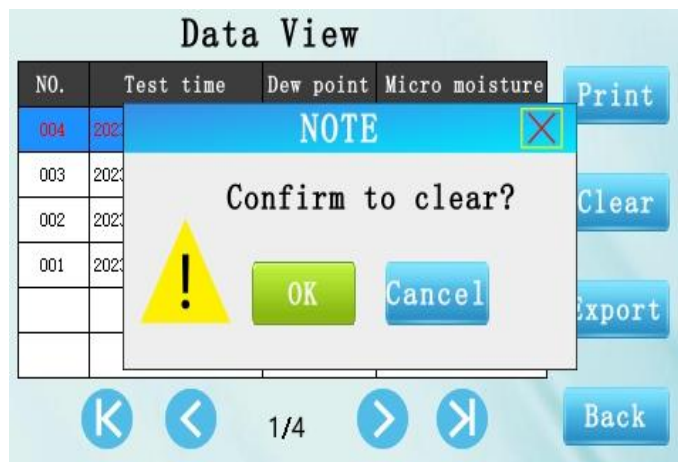

Figure 9 Clear record
**Clear:** After clicking the Clear button, a pop-up window prompts "Confirm to clear ?" Click OK and the instrument will clear all saved data records, and click Back to cancel the current emptying operation, as shown in Figure 9.